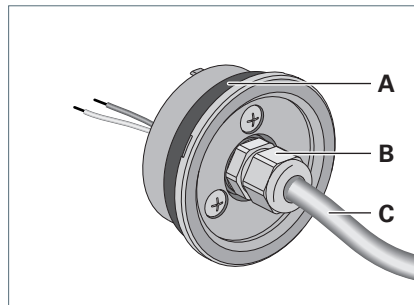

Fig. 3: Luminaire RL70.
- Pass the cable through the cable gland **B**, see Fig. 3.